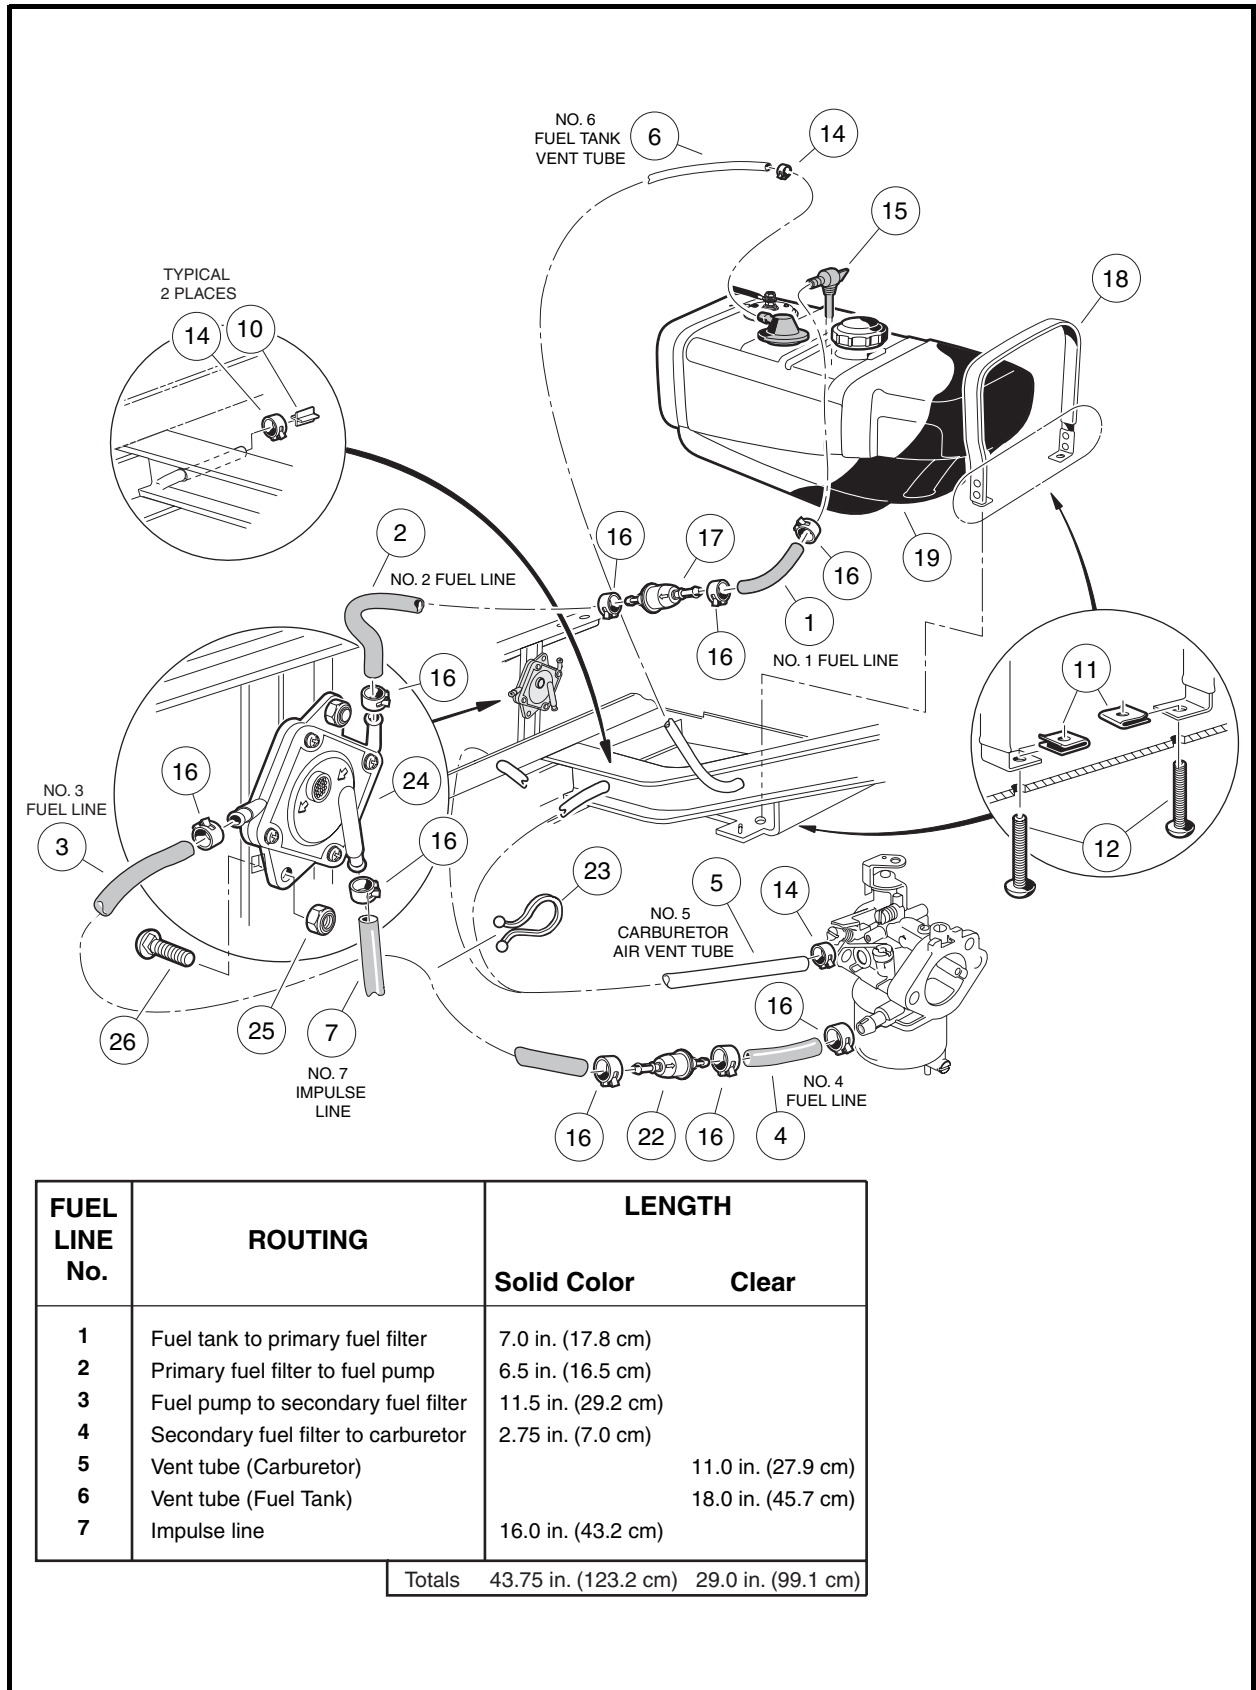
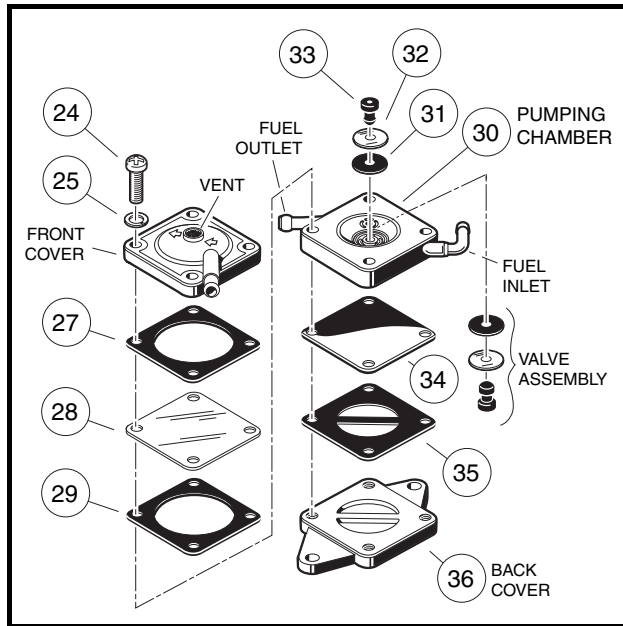
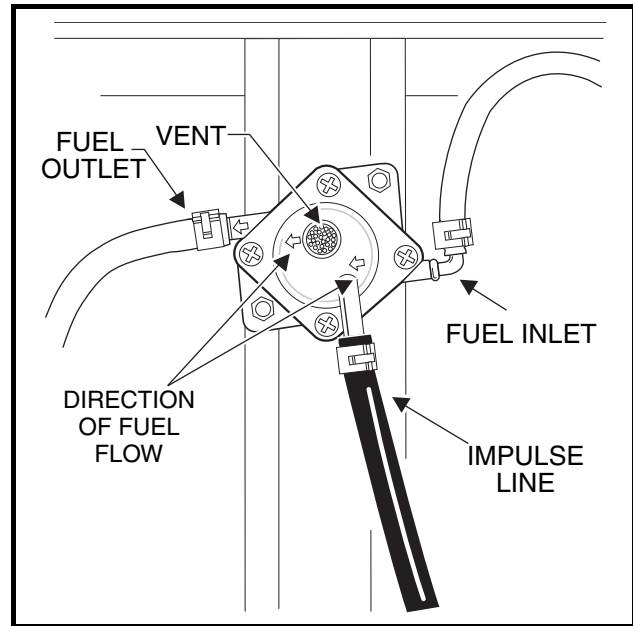

Figure 14-10 Fuel and Vent Lines
Figure 14-11 Fuel Pump
Figure 14-12 Fuel Pump Orientation
3. To prevent fuel drainage, turn the fuel shut-off valve (15) on the fuel tank (19) (**Figure 14-10, Page 14-16**) to the closed (OFF) position (**Figure 14-15, Page 14-24**).
4. Remove the primary fuel filter (17) (**Figure 14-10, Page 14-16**).
1. Install the primary fuel filter (17) in the fuel line. Use new clamps (16) (**Figure 14-10, Page 14-16**).
2. Install the secondary fuel filter (22) in the fuel line. Use new clamps (16).
4. Remove hardware attaching the fuel pump (24) and lift the fuel pump out of the engine compartment (**Figure 14-10, Page 14-16**).
5. Remove the clamp and impulse line (7) from fuel pump.
2. Remove four screws (24) and lock washers (25) from front of the fuel pump (**Figure 14-11, Page 14-19**).
4. Note the orientations of the impulse gasket (27), the diaphragm (28), and the gasket (29), then remove them from the pump.
5. If the impulse gasket (27) and the diaphragm (28) come off with the front cover, note their orientations and remove them (**Figure 14-11, Page 14-19**).
6. Remove the pumping chamber (30).
7. Remove the back cover (36), the fuel diaphragm (34), and gasket (35) (**Figure 14-11, Page 14-19**).
2. Inspect the valve assemblies (31, 32, and 33) and all gaskets and diaphragms for damage (**Figure 14-11, Page 14-19**).
3. If a valve assembly is damaged, the rubber retaining plug (33) and valve assembly must be replaced.
1. Install the fuel gasket (35) and diaphragm (34) on the back cover (36) (**Figure 14-11, Page 14-19**).
2. Install the valve assembly in the pumping chamber (30). **See following CAUTION.**
- If the valve assembly is not installed exactly as shown (**Figure 14-11, Page 14-19**), the impulse fuel pump will not operate properly.
3. Install the pumping chamber (30) on top of the fuel diaphragm (34). Be sure the fuel inlet and the fuel outlet align with the arrows on the front of the front cover (**Figure 14-11, Page 14-19**).
4. Install the gasket (29), clear impulse diaphragm (28), and the paper impulse gasket (27) to the pumping chamber (30).
5. Install the front cover and then the lock washers (25) and four screws (24) on the assembly (**Figure 14-11, Page 14-19**). Be sure the arrows on the front cover point from the fuel inlet to the fuel outlet (**Figure 14-12, Page 14-19**). Tighten the screws to 26 in-lb (3.0 N·m).
1. Connect to the fuel pump the fuel line (2) that comes from the primary fuel filter (17). Install a new clamp (16). Route the fuel lines as shown (**Figure 14-10, Page 14-16**).
NOTE: Be sure to connect the fuel line (2), that comes from the primary fuel filter (17), to the inlet nipple on the pump. Direction of fuel flow is indicated by the arrows on the fuel pump (**Figure 14-10, Page 14-16**). See also **Figure 14-12, Page 14-19**.
2. Connect to the output side of the fuel pump, the fuel line (3) that goes to the secondary fuel filter (**Figure 14-10, Page 14-16**).
3. Connect the impulse line (7) to the bottom nipple on the fuel pump. Use a new clamp (16).
8. Remove the vent tube (6) and fuel line (1) from the fuel tank (**Figure 14-10, Page 14-16**)
9. Loosen the straps (13 and 18) by removing the screws (12) from the speed nuts (11).